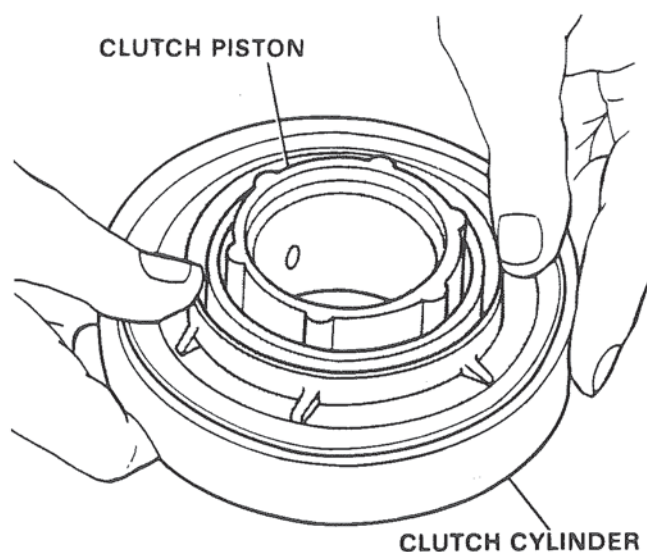

Figure 55. Installing Forward Clutch Piston.
10. After aligning the assembled forward clutch piston squarely on the assembled forward clutch cylinder, press the clutch piston into the forward clutch cylinder. Figure 55. This is a hand assembly and should not require pounding by hammer or pressing on arbor press. Assembly is complete when piston "bottoms" in forward clutch cylinder.